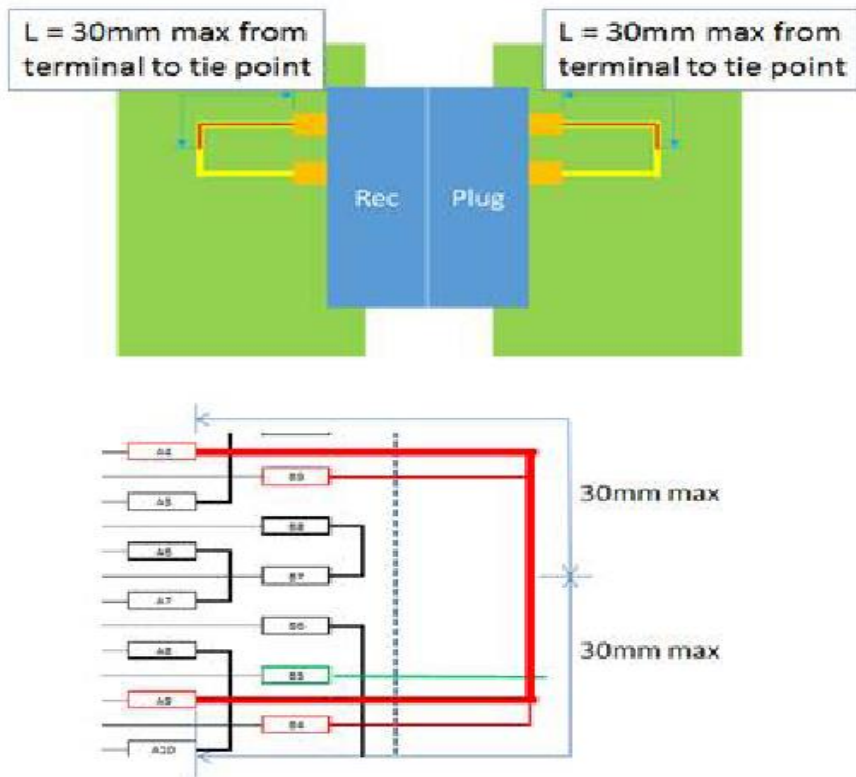

Figure C-2 Example Current Rating Test Fixture Trace Configuration
- For certification, the connector manufacturer shall provide the receptacle and plug samples under test mounted on a current rating test PCB with no copper planes. The current rating test PCBs shall be of 2-layer construction. Table C-1 defines the requirements for the test PCB thickness and traces. The trace length applies to each PCB (receptacle PCB and plug PCB) and is from the contact terminal to the current source tie point. Figure C-2 provides an informative partial trace illustration of the current rating test PCB.